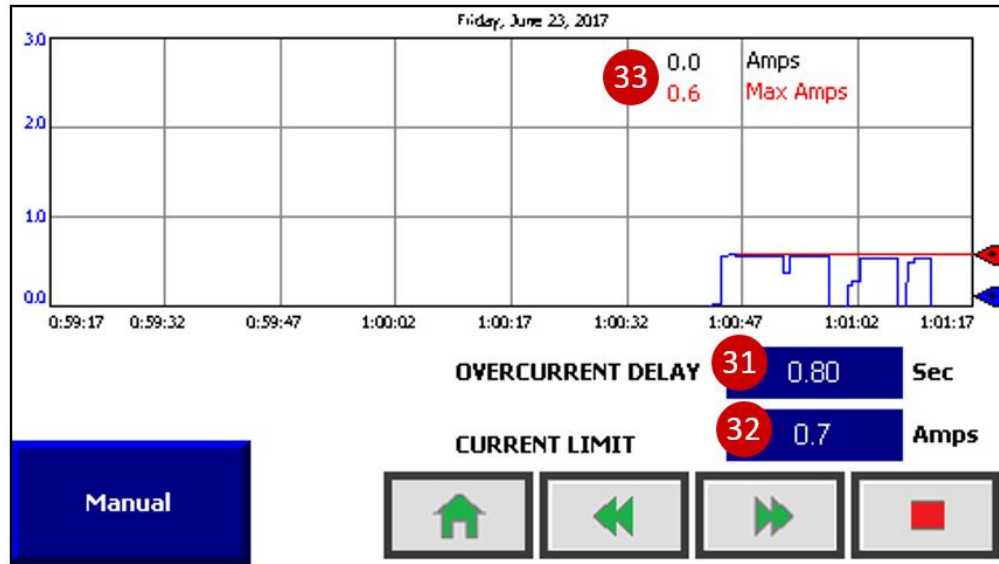

Figure 12 Sweep Arm Current Trend / Overcurrent Settings
- 43 Sweep Current Limit – The sweep arm current limit in Amperes. There are two values that make-up the overcurrent shutdown; this set point and a time delay. The time delay set-points can be accessed from the Sweep Current Trend Screen. See Figure 12.